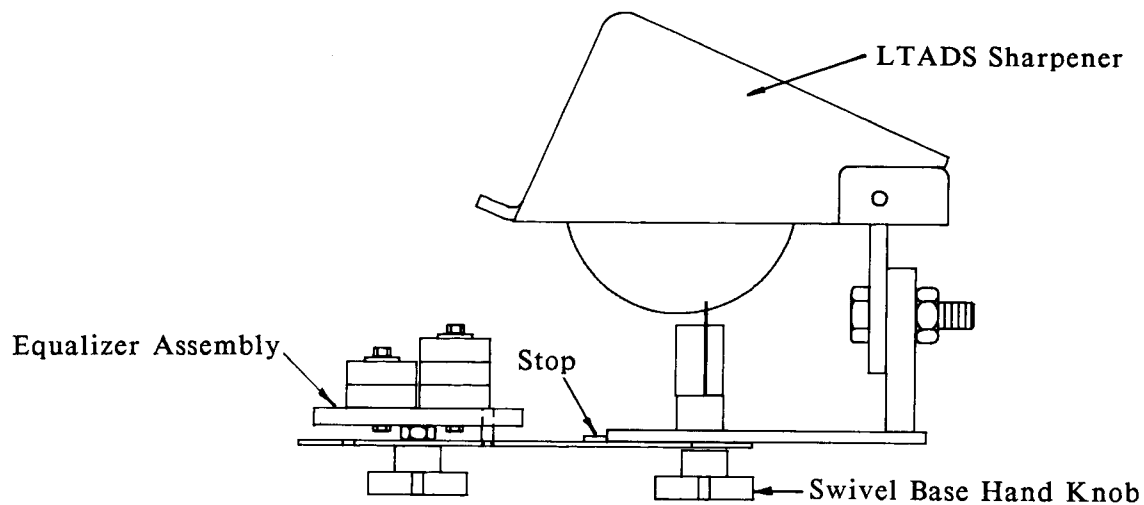

FIGURE 1
1. Loosen the hand knob underneath the sharpener's swivel base. Slide the open slot in the equalizer handle around the hand knob stud until the stop fits against the front lip of the sharpener base as shown in Figure 1.